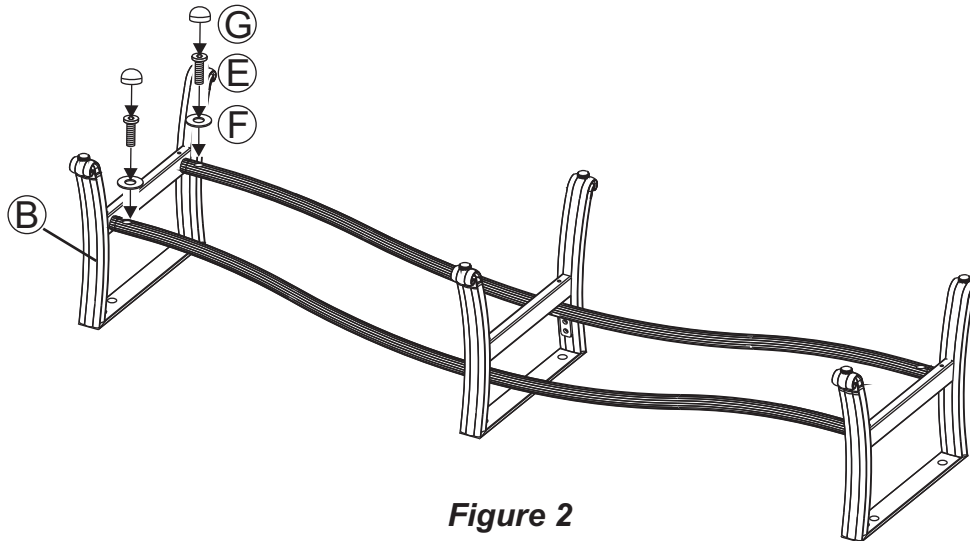

Figure 2
- 2 Attach a side leg to the leg connector bar by using the bolts and washers as shown in **Figure 2**. Guide the bolts through the holes in the leg connector bar, into the pre-drilled holes in the side leg. **Hand tighten only 2-3 turns**. Repeat for the other side leg.